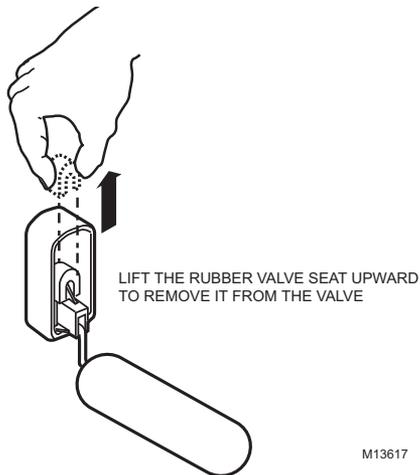

Fig. 2. Float Valve Assembly
5. Grasp the rubber valve seat between your thumb and forefinger and lift it upward to remove the valve seat from the valve. The seat is located inside the humidifier housing at the water valve opening. See Fig. 2.